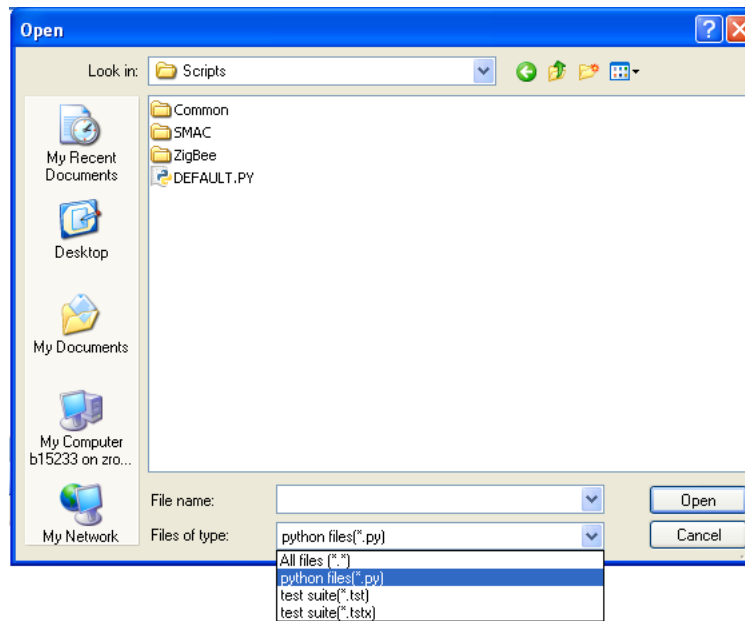

Figure 3-2. Search Window
2. To search for a Script or Test Set to load, click the Add button from the Test Set/Script Area of the Script Server window. The Search window appears as shown in Figure 3-2.